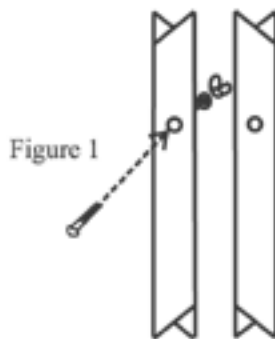

Figure 1
- 1) Take the four tables legs and make two sets as shown in figure 1. Insert carriage bolts through the holes in the legs and secure with a flat washer and wingnut. Make sure the two leg assemblies are mirror images of one another as shown.